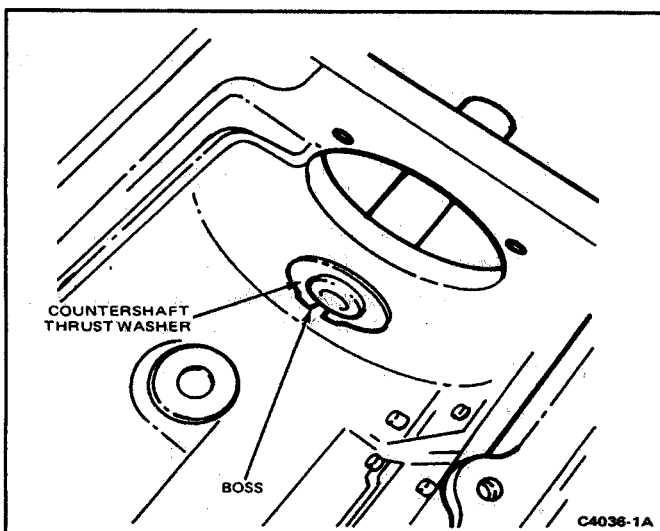

FIG. 12 Installing Countershaft Thrust Washer
2. Start the countershaft (small end first) into its bore at the rear of the case. Insert the shaft just enough to position the rear countershaft steel thrust washer on the shaft and against the case. Apply grease to the washer to hold it in position. Using the reverse idler shaft as a temporary holding tool, insert the small end of the shaft into the front countershaft bore just enough to hold the front countershaft steel thrust washer in position (Fig. 12). Install the thrust washer.